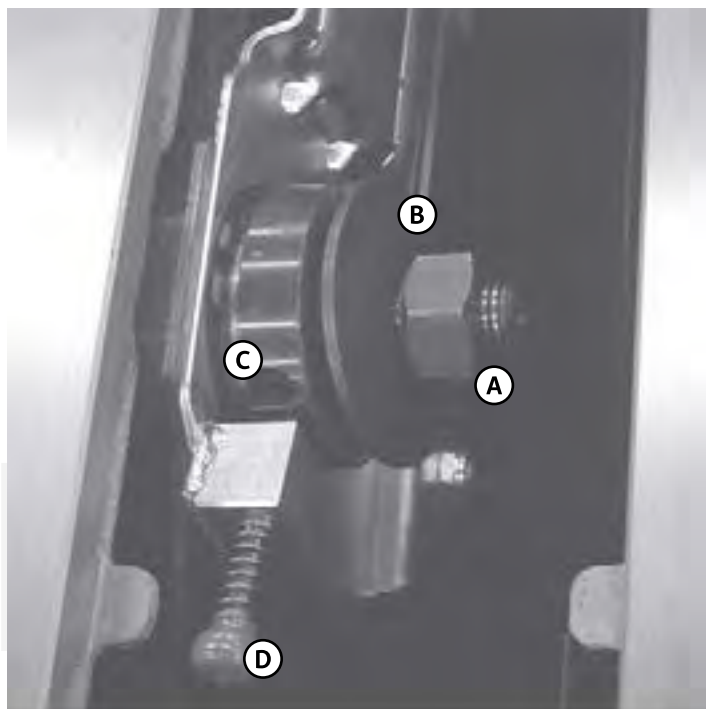

FIGURE 5: BLADE ARBOR ASSEMBLY
- See Figure 5.
1. Remove the table insert (B).
2. Unlock the quick-release clamp (D). See inset of Figure 5. The quick-release clamp (D) is located inside the table and can be accessed through the insert opening.
3. Once the quick-release clamp is open, the spring-loaded floating clamp block (E) will move away from the fixed block (F), leaving a gap.
4. Insert the bottom of the riving knife (C) all the way into the gap between the clamp blocks (E and F). Then lock the quick-release clamp (D).
5. Replace the table insert (B). The saw blade and riving knife should protrude through the slot in the insert.